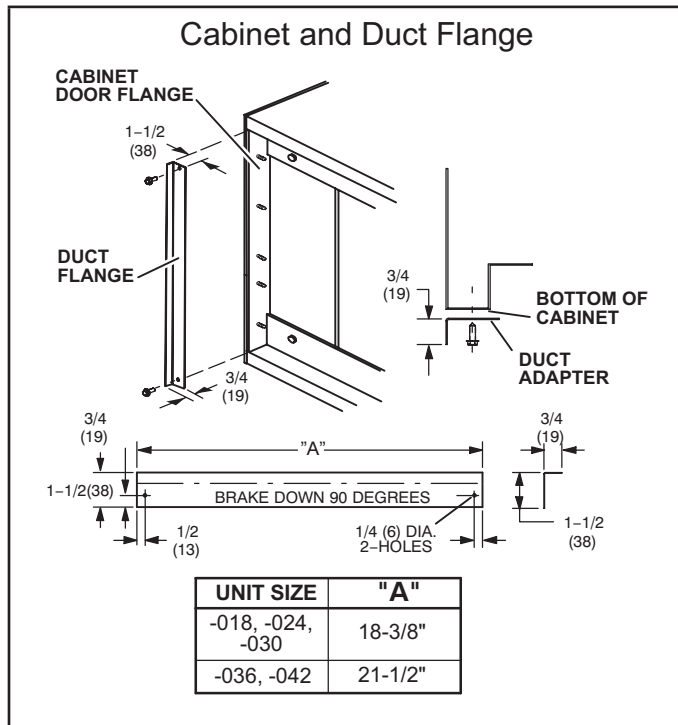

FIGURE 13. Cabinet and Duct Flange
- 4 - Connect the suction and liquid lines to the evaporator coil. Take care to protect the cabinet and internal components as detailed in figure 13.